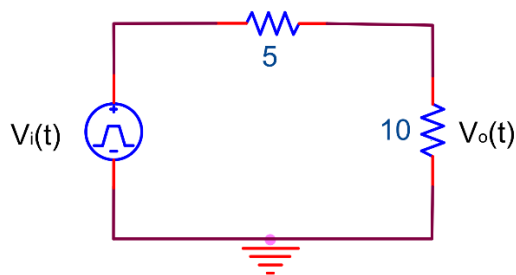

Figure 4.13
3. Construct the circuit show in Figure 4.13. The source depicted is a “pulse” voltage source. Source parameters are 1KHz and 30 volts peak to peak. “Place”→”Pspice Component”